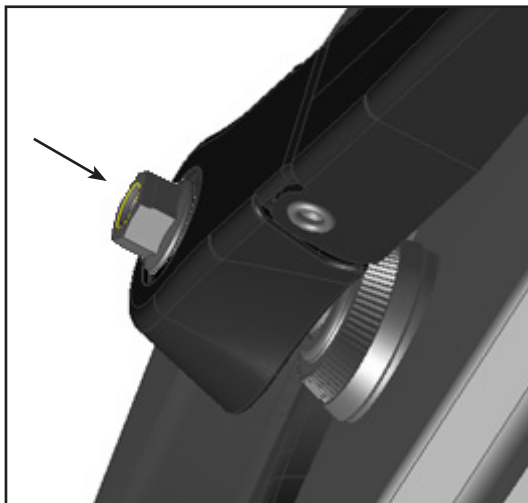

Figure 10 - Loosen the Pivot Nut
1.28. Loosen the pivot nut by a few threads. See Figure 10.